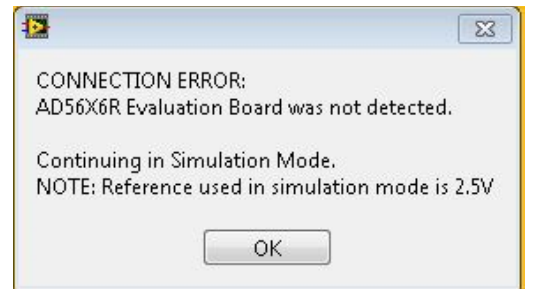
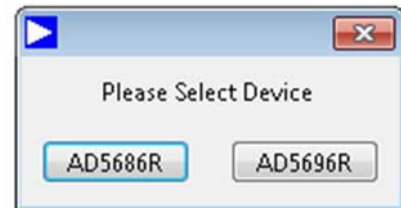
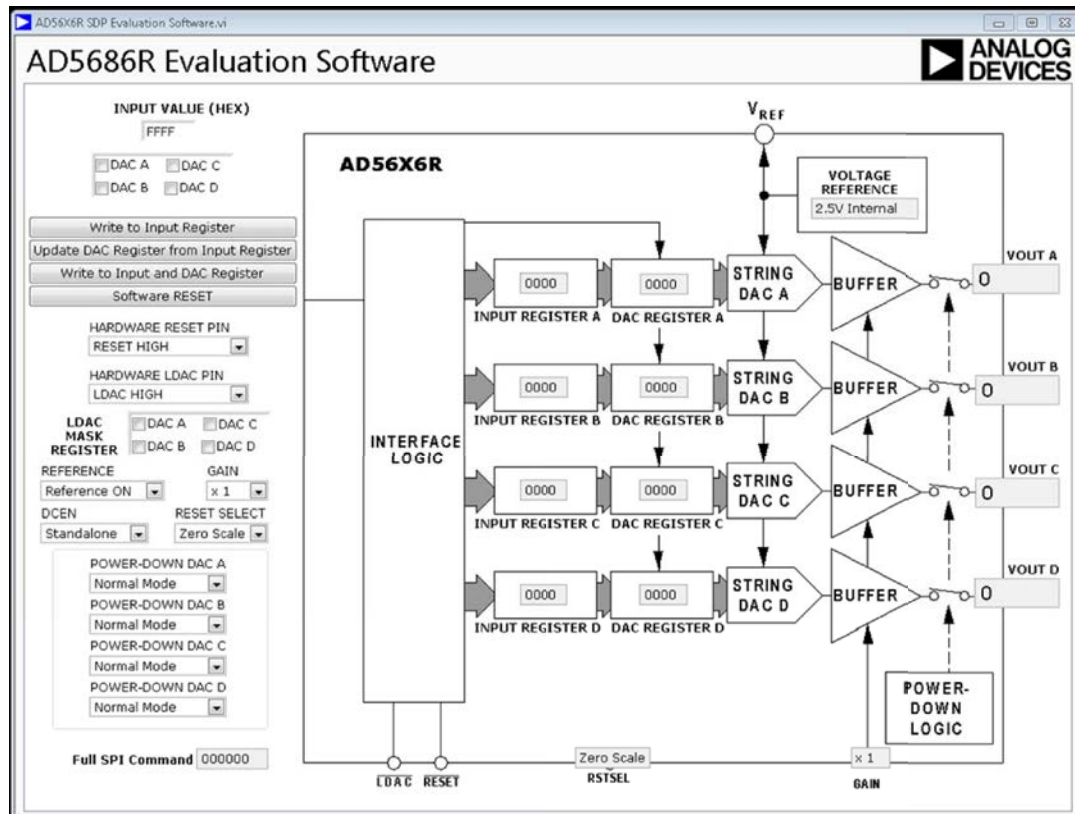

Figure 4. Simulation Mode
Figure 5. Device Selection for Simulation Mode
Figure 6. AD5686R Evaluation Software Main Window
| Added Figure 5; Renumbered Sequentially | 5 |
| Changes to Figure 6..... | 6 |
4. Alternatively, you can use the software without an evaluation board. The software runs in simulation mode, displaying expected outputs based on the input data (see Figure 4). Note that a 2.5 V reference voltage is used in simulation mode. A screen similar to Figure 5 in which the user chooses which device the simulation should run appears. The main window of the AD5686R evaluation software then opens, as shown in Figure 6.